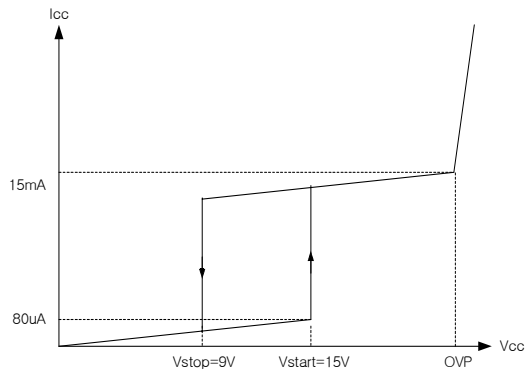

Figure 1. Strat up with hysteresis
1. Start up : To guarantee stable operation of the control IC, FS8S0765RCB has UVLO circuit with 6V hysteresis band. Figure 1 shows the relation between the supply current (I_{cc}) and the supply voltage (V_{cc}). Before V_{cc} reaches 15V, the FPS consumes only startup current of 80 μ A, which is usually provided by the DC link through start-up resistor. When V_{cc} reaches 15V, the FPS begins operation and the operating current increases to 15mA as shown. Once the control IC starts operation, it continues its normal operation until V_{cc} goes below the stop voltage of 9V